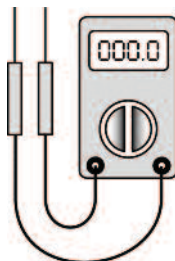

Fig. 30: Multi-meter
Connect the Enable/Disable wiring (terminals 11 and 12) to the field wiring terminals (shown in Fig. 30). Alternately, any dry contact closure (including a
2. To enable this remote control function, set dip switch 5 to the UP position on the PIM. DIP switch 5 Toggles between an EMS (UP) signal or a demand signal from the VERSA (DOWN). DIP switch 2 on the PIM toggles between a Direct Drive (UP) input and a Target Temperature (DOWN) setpoint.
4. Connect an Energy Management system or other auxiliary control signal to the terminals marked 0-10V (+ /-) on the field wiring terminals (see Fig. 30). Caution should be used to ensure that the +0-10V connection does not create a short to ground.